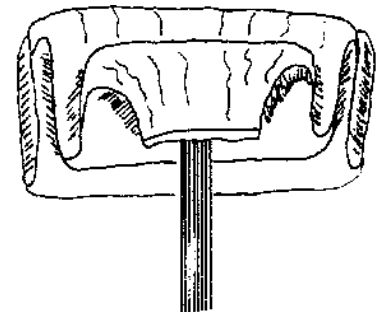

Figure 2-5
Step 10 Stack the canopy in "S" folds as shown in *Figure 2-5*, keeping the slider up against the canopy and keeping the slack out of the lines. The stacked canopy should be 3-4 inches wider than the bag.